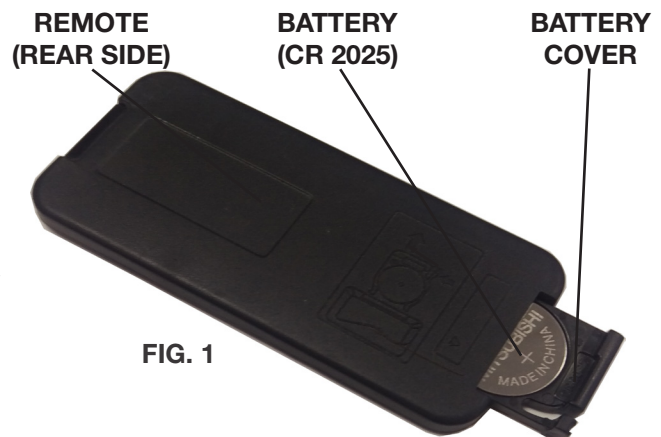

FIG. 1
2. To remove the battery holder, turn the remote onto the front side and press the left side lever towards the center while pulling the battery holder out using the slot provided (FIG. 1).